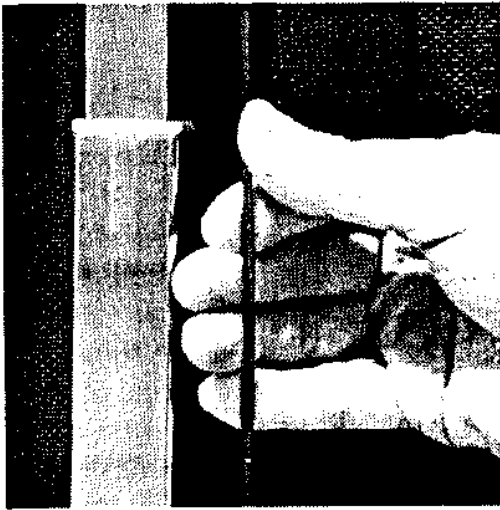

Fig. 3
3. Continue cranking until the gauge cable is almost tight. The red safety gauge cable is located directly above the crank position. Fig. 3